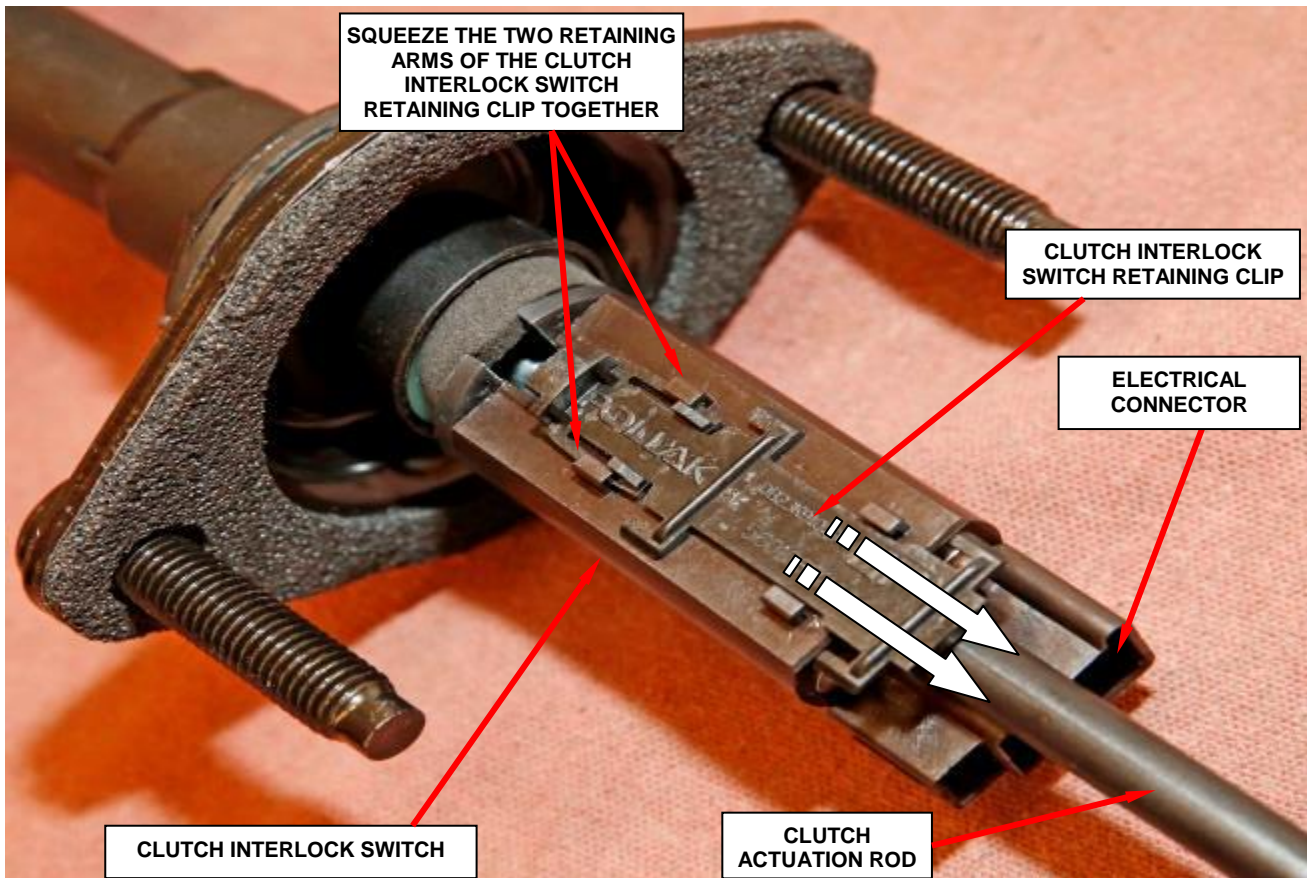

Figure 7 – Clutch Interlock Switch Retaining Clip
- a. Squeeze the two retaining arms of the clutch interlock switch retaining clip together (Figure 7).
11. Install the new black plastic clutch interlock switch retaining clip (Figure 7).